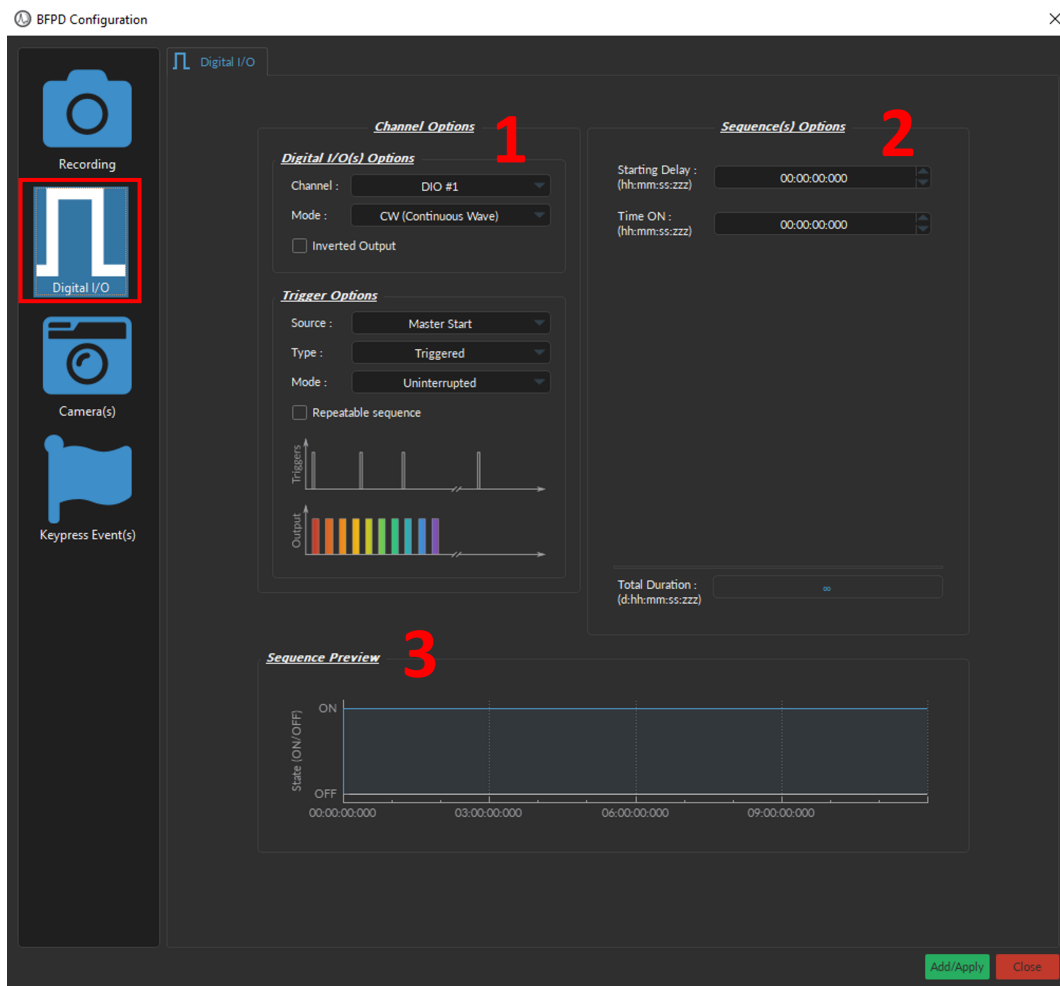

Figure 14.17: Channel(s) configuration window, Digital I/O - CW mode
The *Channel(s) Configuration* window for the **Digital I/O** Channel is divided into three sections (Fig. 14.17): (1) the **Channel Options** (Section 14.4.4.1), (2) the **Sequence Options** & (3) **Preview** (both treated in Section 14.4.4.2).